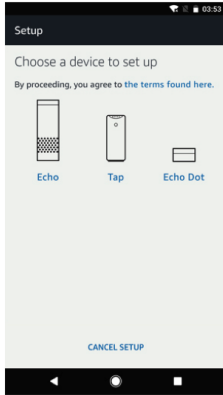
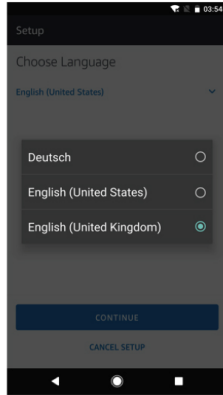
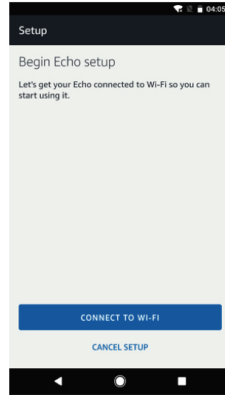

fig.6
fig.7
fig.8
- Select your Echo model (fig. 6), choose the appropriate language (fig. 7) and then tap 'CONNECT TO WI-FI' (fig. 8).